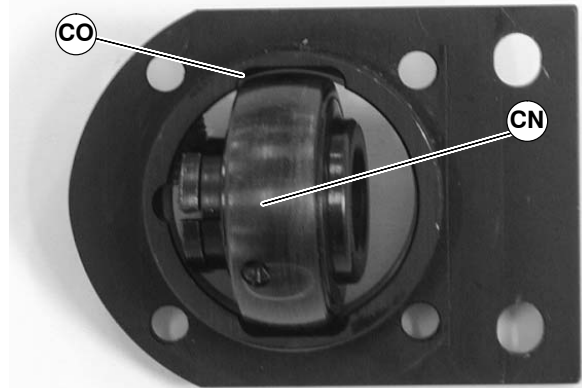

Figure 86
1. Turn bearing (CN of Figure 86) to align with slots (CO) in bearing housing. Then remove bearing.